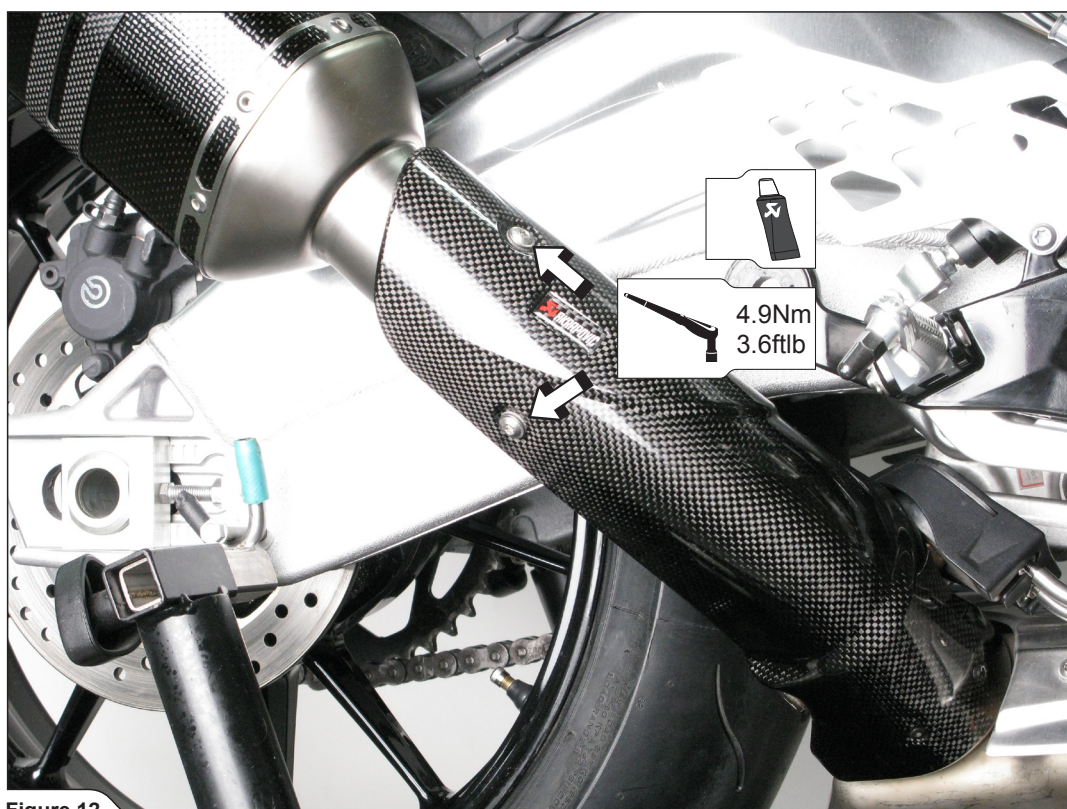

Figure 12
9. For Low Slip-On only: tighten the heatshield to a specified torque (Figure 12).